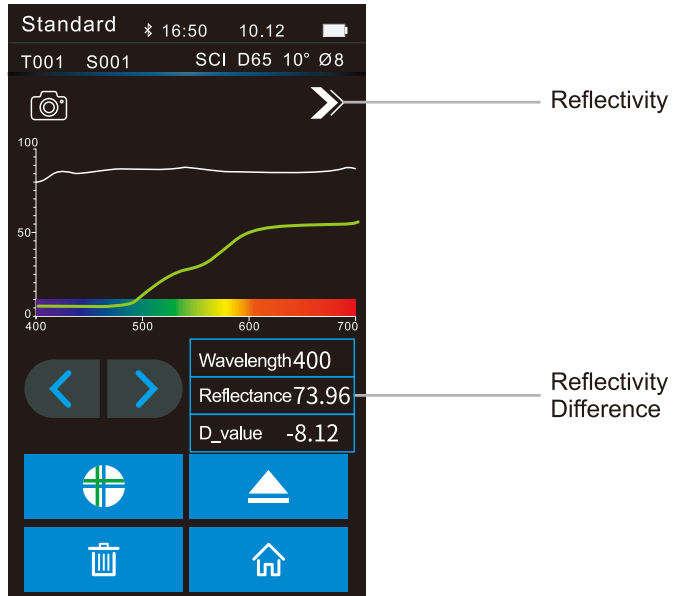

Figure 10 Measured Reflectivity of Sample
7) **Reflectance Difference:** The difference between the measurement sample and the standard under the current reflectivity. As shown in Figure 10, click the button"◀▶", and the difference between the light wavelength of the currently measured sample, the reflectivity of the sample and the reflectivity of the sample standard will be switched at intervals of 10nm.